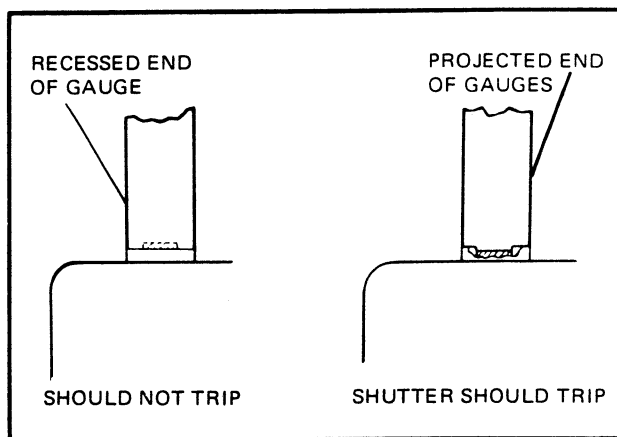

FIG. 3.1 SHUTTER RELEASE BUTTON CHECK
2. Place the recessed end of gauge #A169452 over the release button and push down until the gauge is butted against the bezel (Figure 3-1). The shutter **SHOULD NOT** trip.